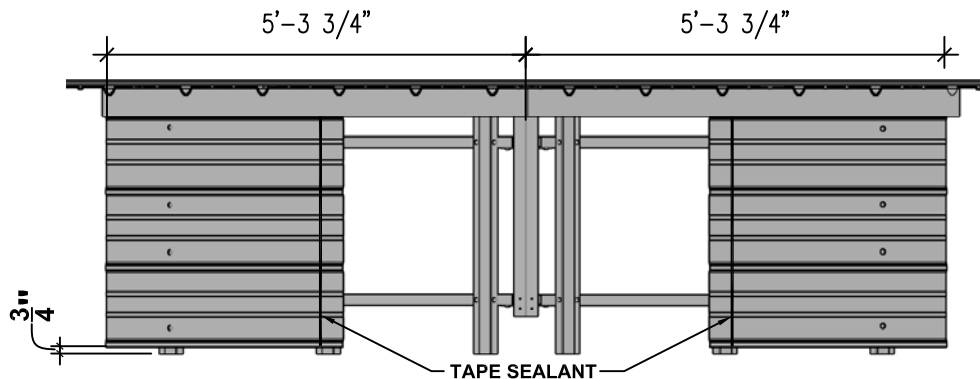

FIGURE 15
1. Place the End Roof Sheets back on the Hat Purlins. Slide the sheet toward the wall panel allowing $\frac{3}{4}$ " from the end of the Hat Purlins per **Figure 15**. Align the bottom of the panel with the end of the Transition Flashing. Square panel with canopy framing. Attach Roof Panel to lowest Hat Purlin with Structural Screws per **Figure 15**.
2. Place a strip of Tape Sealant (M-061-00) across the top of the End Roof Sheets (C-042-00) just below the bottom edge of the second Hat Purlin per **Figure 15**.